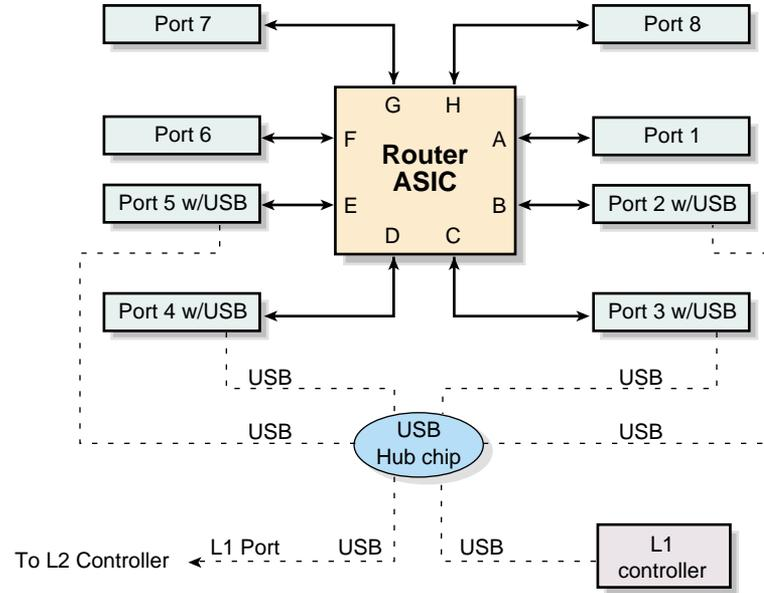

Figure 7-2 R-brick Block Diagram
- An SGI custom-designed router ASIC, which is an eight-port crossbar that connects any input-link channel to any of the seven possible output-link channels (see Figure 7-2). The NUMALink channels operate at 1.6 GB/s (each direction).